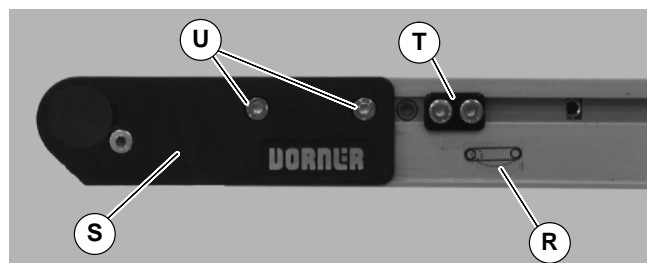

Figure 20
6. Using finger grip holes (AN), open the tension door (AO) to release conveyor belt tension.
7. On tension end of the conveyor, identified with a  label (R of Figure 20), push in head plate assembly (S): On both sides of conveyor, loosen and move cam tracking assemblies (T) (if equipped) away from head plates, then loosen fastening screws (U) and push head plate assembly inward.